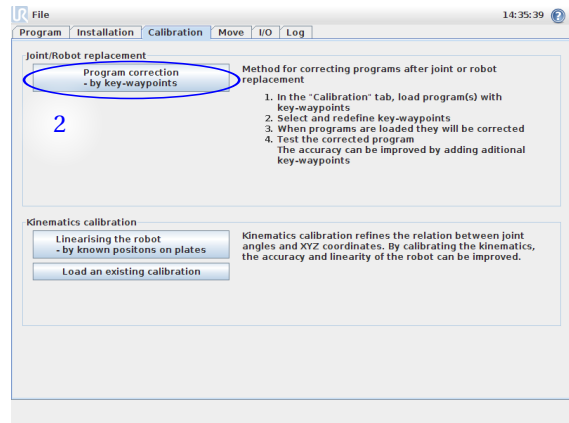

Figure 2.3: Select "Program correction - by key-waypoints".
- (2) This enables a new tab called "Calibration" in the normal program mode. In this tab is three options available. Chose "Program correction - by key-waypoints", see figure 2.3.